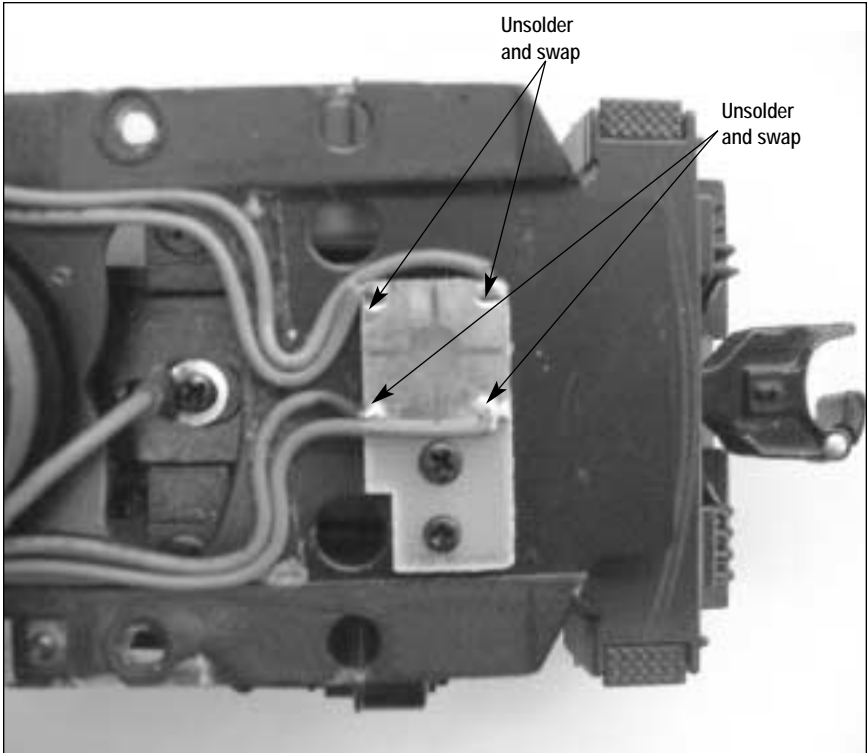

Figure 10. C-420 lighting pads
- **C-420 locomotives only.** Reverse the two wires that connect the front lighting harness contact pads and the two wires that connect to the rear lighting harness pads so that the LED marker lights and headlights operate. Refer to Figure 10.